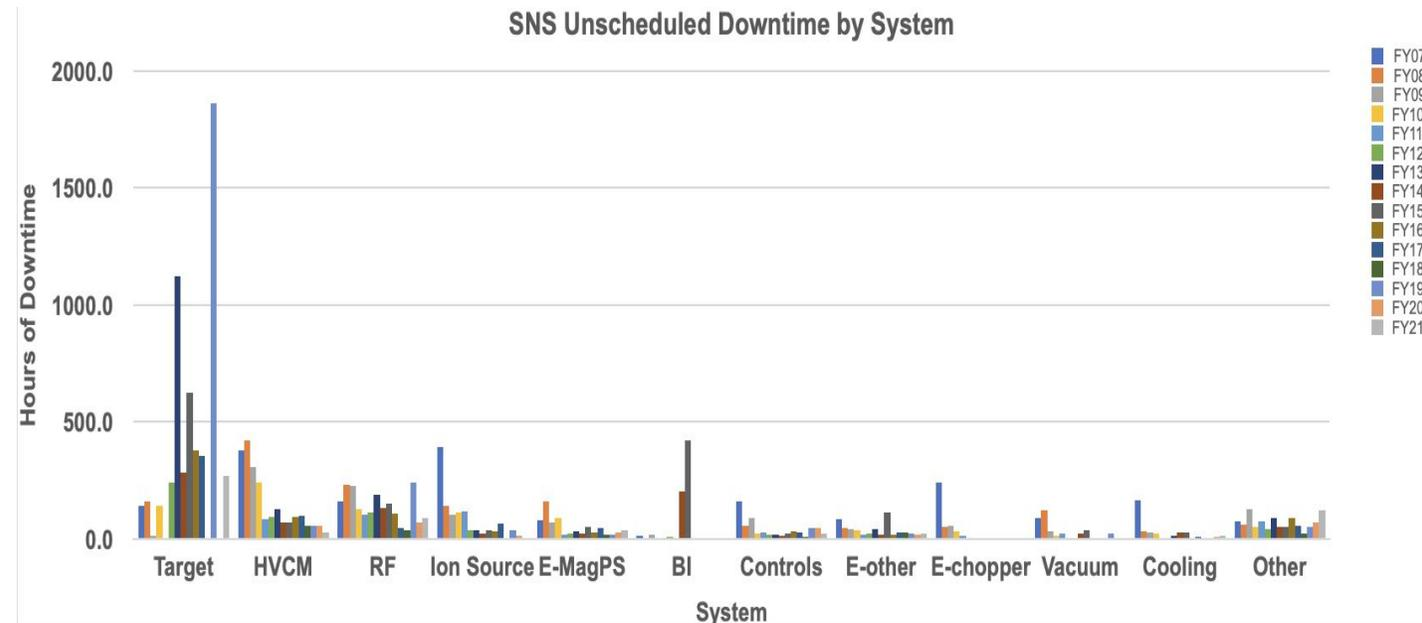

Figure 1. Spallation neutron source downtime by system from fiscal year (FY) 2007 to 2019.
- The HVCM is the second leading source of downtime for the SNS after the proton target system (Fig. 1).